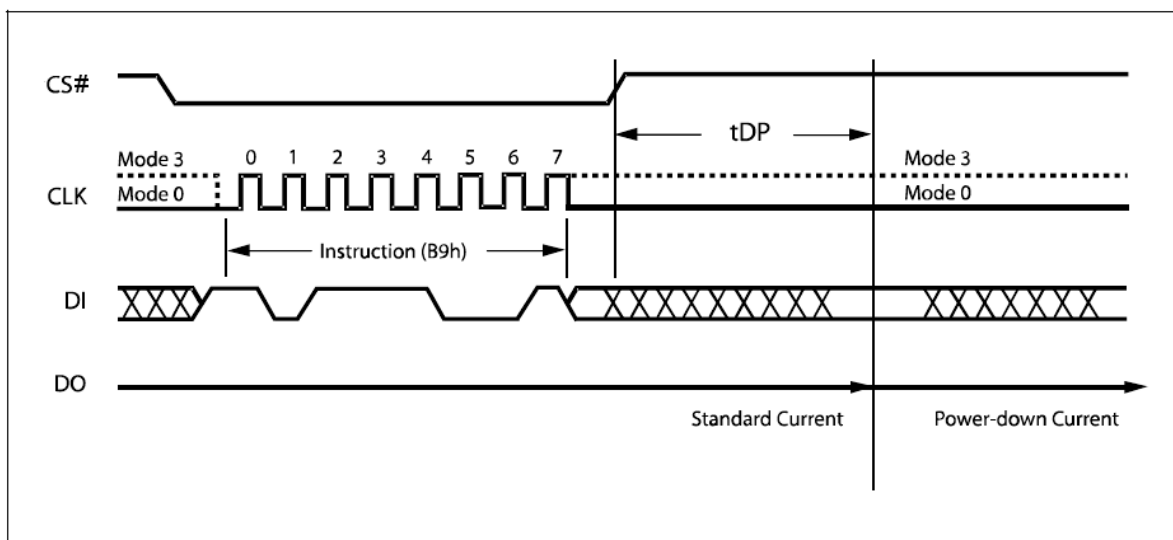

Figure 18. Deep Power-down Instruction Sequence Diagram
The instruction sequence is shown in Figure 18. Chip Select (CS#) must be driven High after the eighth bit of the instruction code has been latched in, otherwise the Deep Power-down (DP) instruction is not executed. As soon as Chip Select (CS#) is driven High, it requires a delay of t_{DP} before the supply current is reduced to I_{CC2} and the Deep Power-down mode is entered.